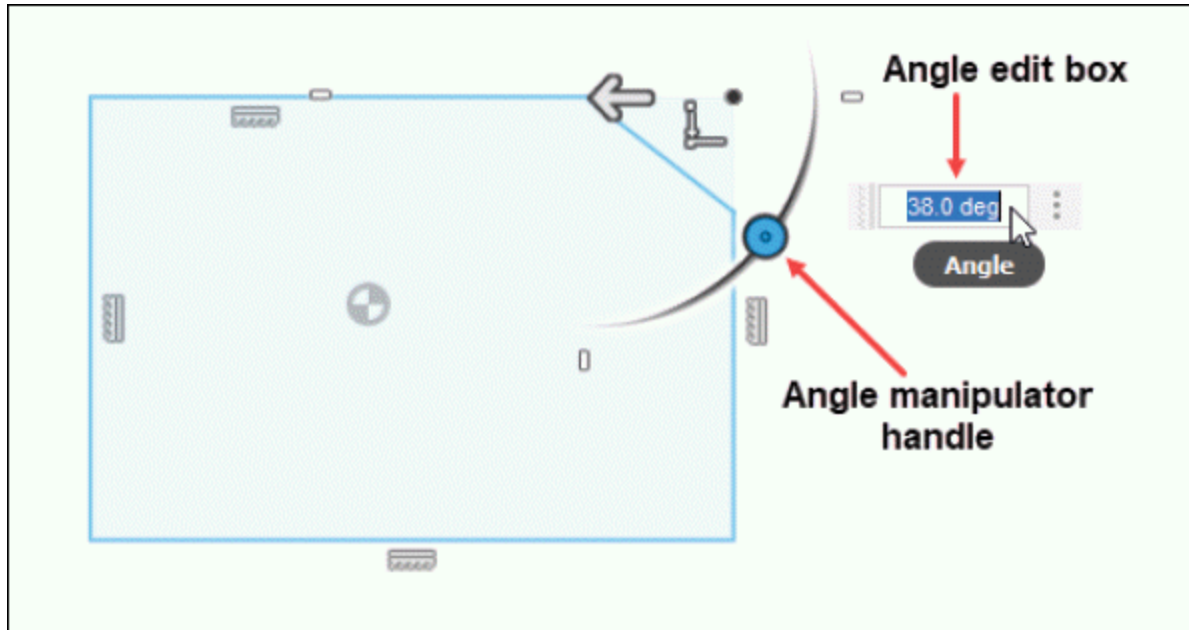

Figure-73. Specifying the angle of chamfer
- Type desired angle value in the **Angle** edit box or drag the angle manipulator handle to specify the angle of chamfer; refer to Figure-73.